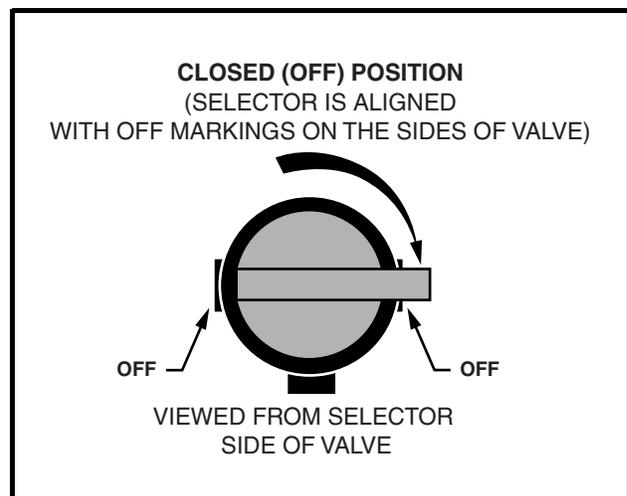

Figure 3-6 Fuel Valve – Closed
- 5.1. Turn the fuel shut-off valve to the closed (OFF) position (**Figure 3-6, Page 3-3**) and run the engine until it stalls. **See DANGER "Do not operate gasoline vehicle..." in General Warning, Section 1, Page 1-1.**